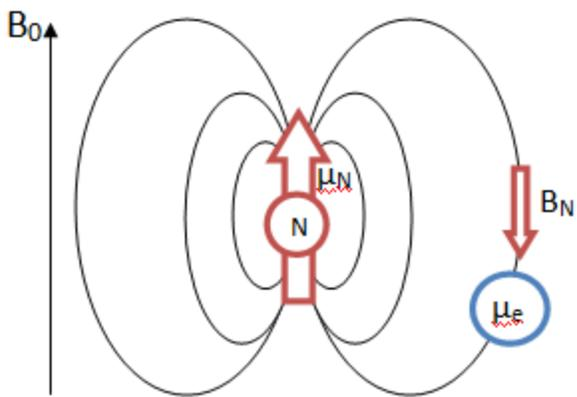

Figure 11. B is magnetic field,  $\mu$  is dipole moment, 'N' refers to the nucleus, 'e' refers to the electron
- Hyperfine Splitting is utilized in EPR spectroscopy to provide information about a molecule, most often radicals. The number and identity of nuclei can be determined, as well as the distance of a nucleus from the unpaired electron in the molecule. Hyperfine coupling is caused by the interaction between the magnetic moments arising from the spins of both the nucleus and electrons in atoms. As shown in Figure 11, in a single electron system the electron with its own magnetic moment moves within the magnetic dipole field of the nucleus.